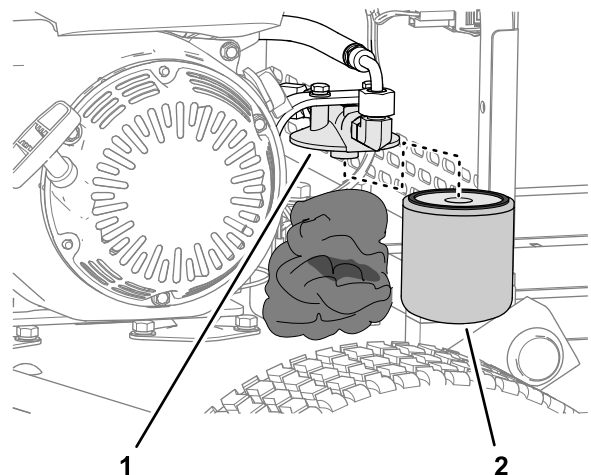

Figure 38
2. Pack rags under the hydraulic filter (Figure 38).
- Carefully remove the hydraulic filter (Figure 38).
- Install the filter onto the filter head by hand (Figure 38) until the gasket contacts the filter head, then tighten the filter 3/4 turn further.